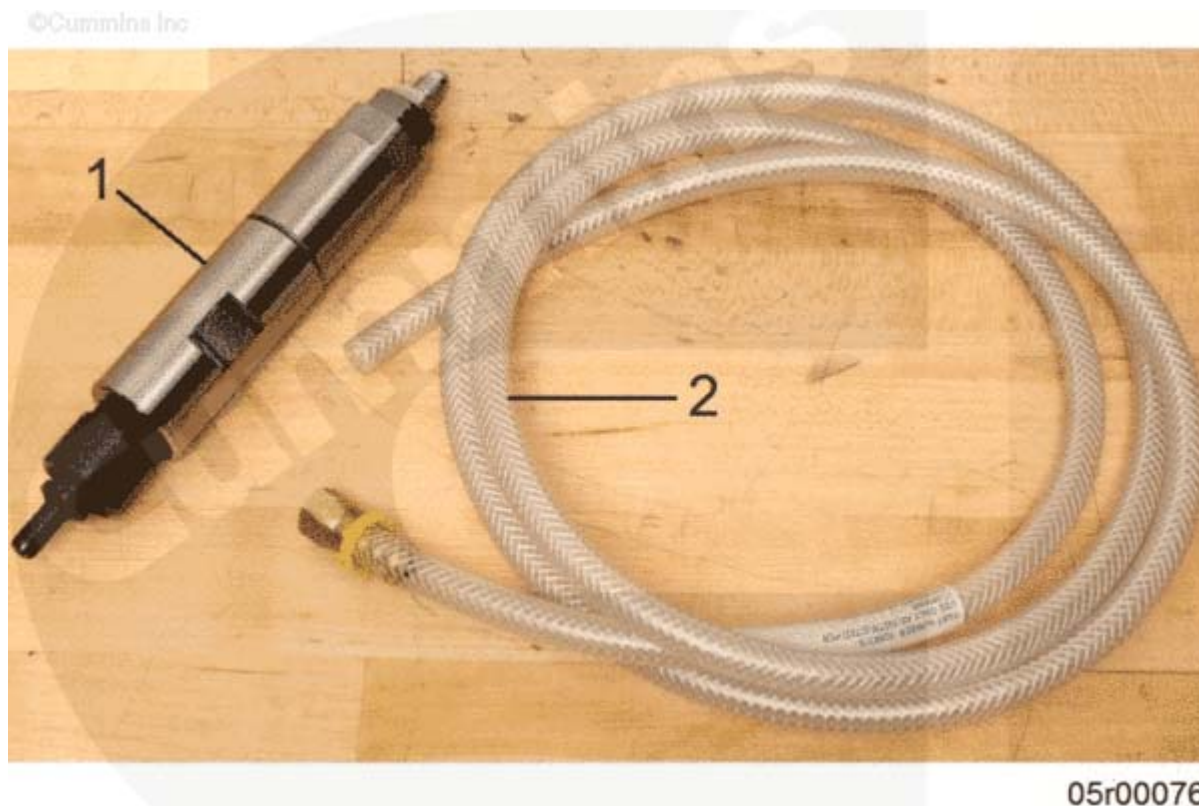

Figure 1, Fuel Pump Performance Test Kit.
Hose, Leak Test (Figure 1, Item 2)	3164673
Install the indicated fuel pump performance test service tool from Table 1, Part Number(s) 5299753 or 5299754 (See Figure 1, Item 1), at the unblocked fuel rail connection.
- Fuel drain line, Part Number 3164673 (Figure 1, Item 2), connected to high-pressure fuel pump service tool, Part Number 5299753 (See Figure 1, Item 1).